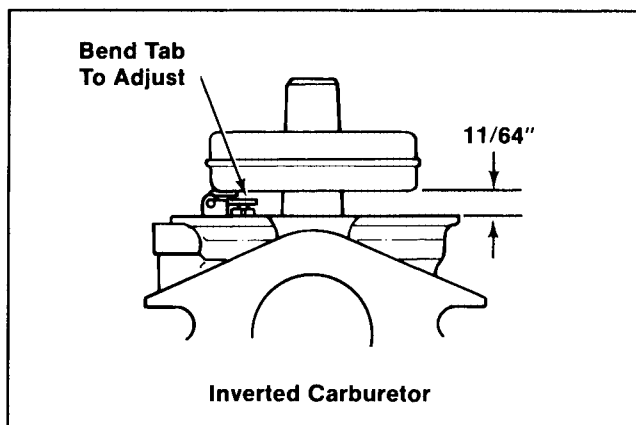

Figure 6-13. Setting Float Level.
3. **Set float level:** Invert carburetor so the float tab rests on the fuel inlet needle. There should be 11/64" (+/- 1/32") clearance between the machined surface of body and the free end of float. Bend the float tab with a small screwdriver to adjust. Refer to Figure 6-13.